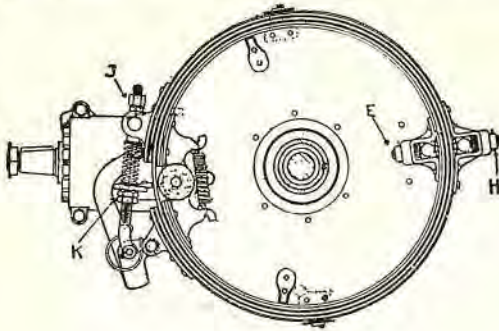

Fig. 20
There are four points of adjustment on each set of brakes (Fig. 20). The adjusting screws (E) and (H) are the means of providing the proper clearance at the rear of the internal and external bands when released, and should be adjusted to allow an opening between the brake drum and the linings on the brake bands of not more than $1/32$ ".